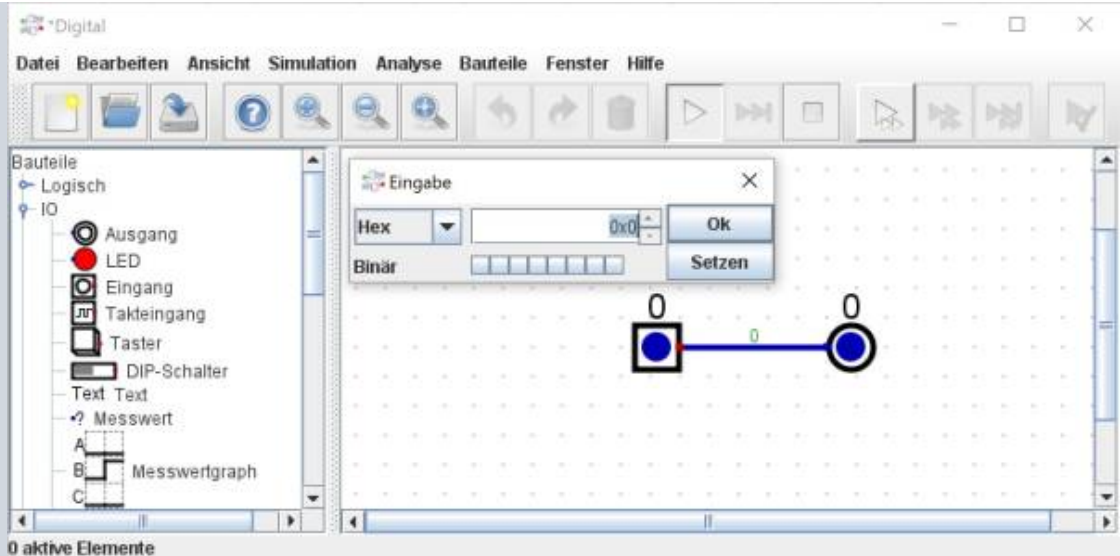

Fig. 3: Circuit with 8 bit bus
5. If the circuit is started now, a 0 appears over input, line and output (see figure 3).
6. A (left)click on the input no longer changes the value directly, but opens an input window. In this window, numbers can be entered as decimal values (10), binary values (0b10), hexadecimal values (0x10) or octal values (010). Pressing Line break (<↵>) accepts the value and closes the input window. Clicking Shift + New Line (<⇧><↵>) accepts only the value. The cursor keys up/down allow the displayed value to be counted up/down.